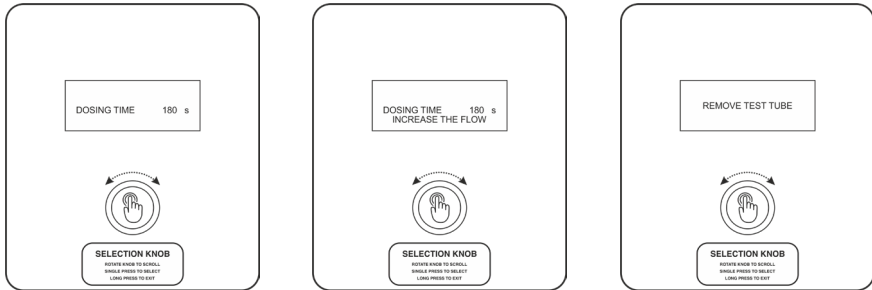

Fig. No. 21.1
- **PROCESS** (Ref. Fig. No. 21.1)